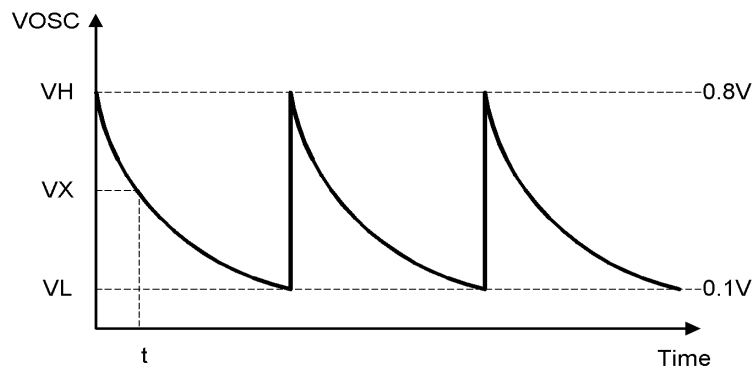

Figure 2 Oscillator Waveform
The oscillator circuit generates a triangular sawtooth wave with a peak of 0.8V and a trough of 0.1V using the timing capacitor (CT) and the timing resistor (RT) that are connected to the OSC pin. This oscillator can provide oscillating frequency in the range from 20KHz to 1MHz. The waveform of the OSC pin is shown as Figure 2.